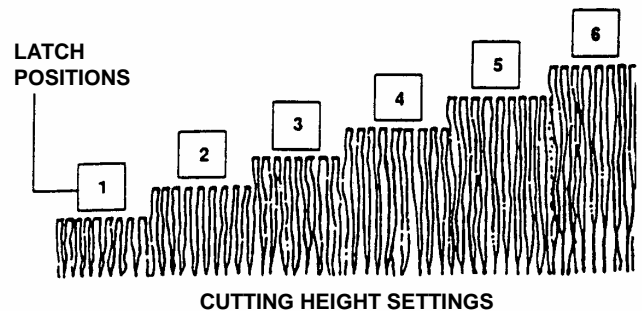

FIGURE 2.6
2. Set all wheels at the same cutting height. The highest cutting position is Notch 6. The lowest cutting position is Notch 1. See Figure 2.6.